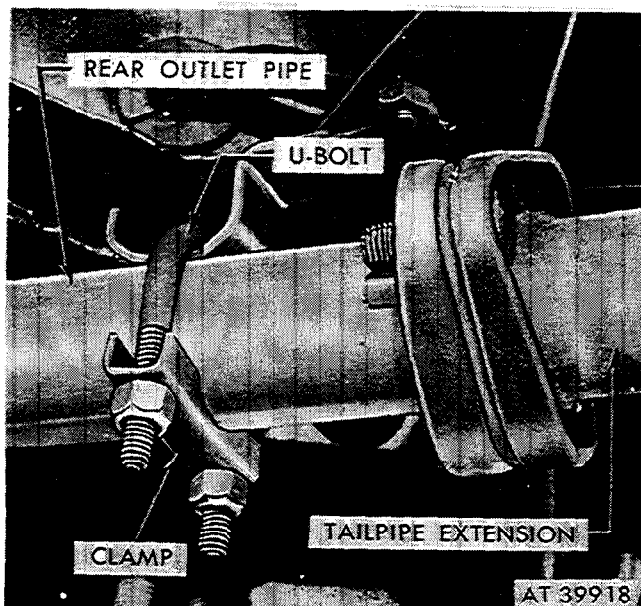

Figure 2-130. Remove rear outlet pipe and tailpipe extension from vehicle.
Remove rear outlet pipe and tailpipe extension from vehicle. Discard front outlet pipe to rear outlet pipe gasket (M151, M151A1, M151A1C and M718 only) (fig. 2-130).
(4) Remove U-bolt and clamp retaining rear outlet pipe to frame. Remove rear outlet pipe and tailpipe extension from vehicles. Discard front outlet pipe to rear outlet pipe gasket (M151A2, M825 and M718A1 only) (fig. 2-130).
(5) Remove tailpipe extension from rear outlet pipe (para 2-60).
**b. Installation.** Install rear outlet pipe by reversing removal operations. Refer to figures 2-130 back through 2-128. Torque the following parts to the values shown: